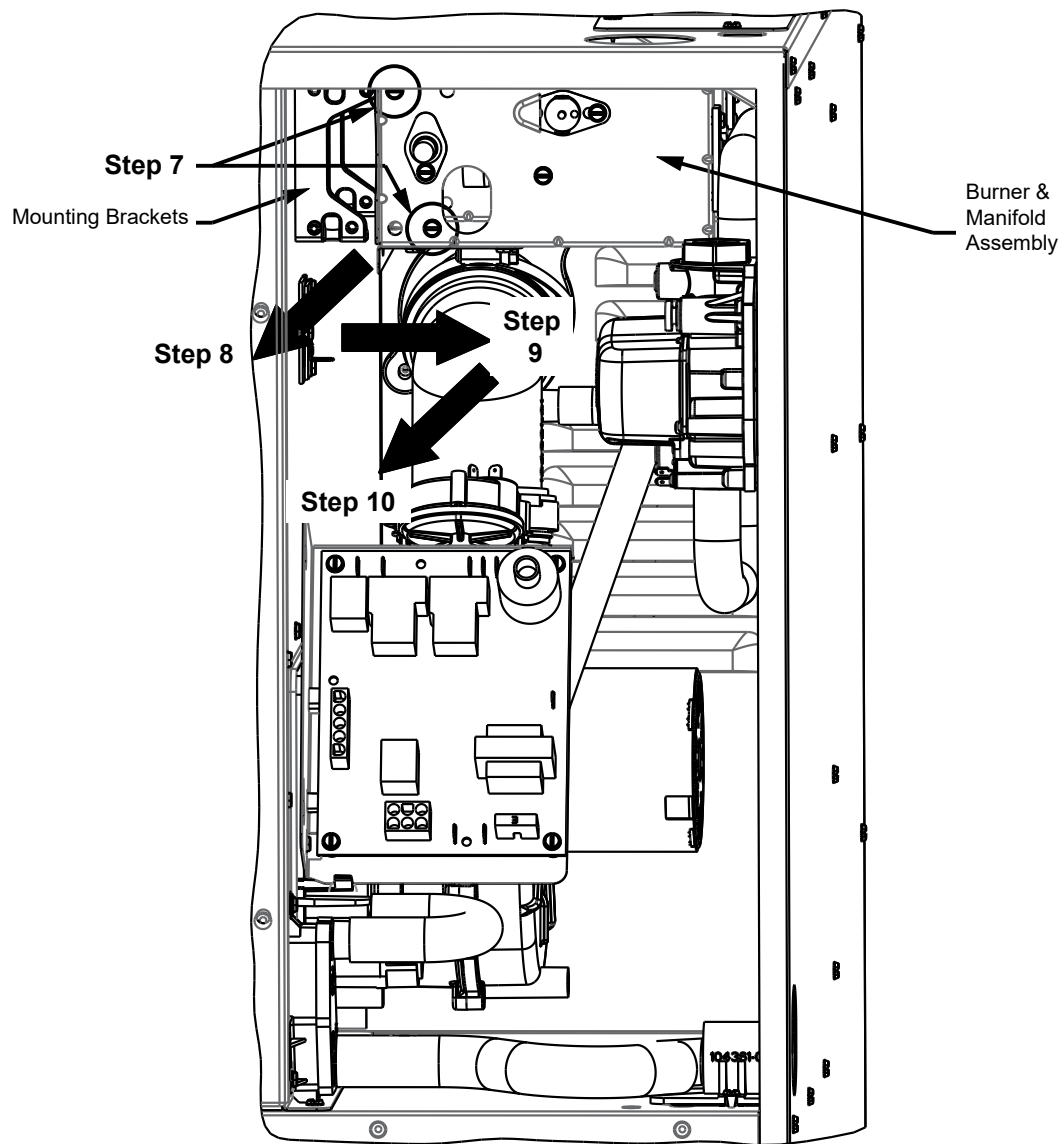

Figure 11. Burner & Manifold Assembly Removal
7. Refer to Figure 11. Remove the two screws on the burner assembly that secure it to the mounting brackets. The mounting brackets contain pins to locate the assembly and hold it in place after the screws are removed. The mounting brackets are hidden until the burner assembly is removed.